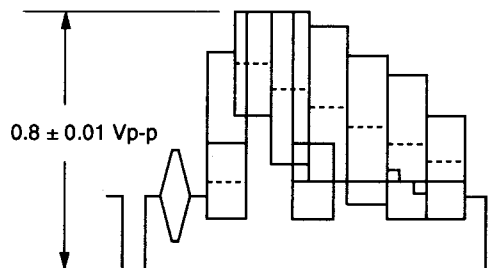

Fig. 5-2-1
- Adjust VR1 so that the Video signal level becomes  $0.8 \pm 0.01 V_{p-p}$  as shown in the Fig. 5-2-1.